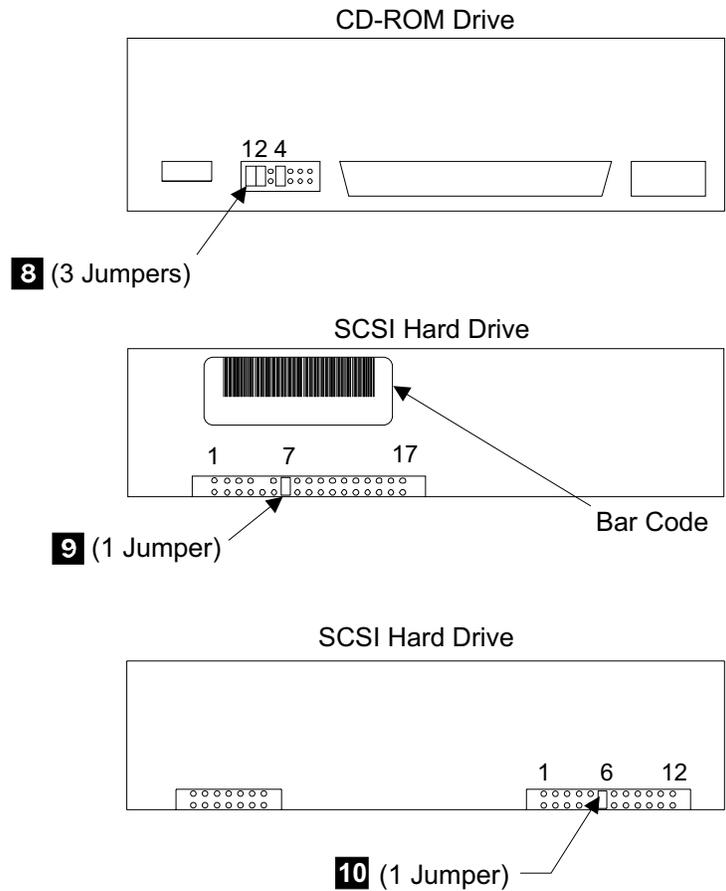

Figure 128. CD-ROM Drive and SCSI Hard Drive Jumpers (S008797p)
- b. When replacing the CD-ROM drive, verify that the three jumpers on the option block (pins 1, 2, and 4) on the rear of the new drive are in the same position, **8** in Figure 128 on page 119, as on the drive you are replacing.
- c. Determine if the rear of the new SCSI hard drive matches either of the drives shown in Figure 128 on page 119.
- If the new drive matches one of those shown, verify that the jumper (active termination) shown in Figure 128 on page 119, is installed between pins 13 and 14 **9**, or pins 11 and 12 **10**.